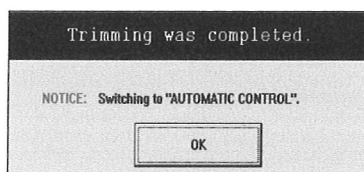

Fig.48
- ⑤ Similar to "Analog Output Trim [4 to 20mA]", a dialog box asks you whether you want to repeat the trim or not. Click on "YES" for repeated trim, or "NO" for proceeding to the next 5V (20mA) analog output trim.
- ⑥ Clicking on "NO" readies for 5V (20mA) trim. Similar to the 1V (4mA) trim, key in the reading of the test instrument and Click on "OK" button. You are similarly prompted whether to repeat the trim or not. Click on "YES" if you desire to do so, or "NO" for terminating the trim.
- ⑦ Clicking on "NO" button exits the analog output trim. You will see a message box "Output trim has ended" as shown in Fig. 48. Click on "OK" button.